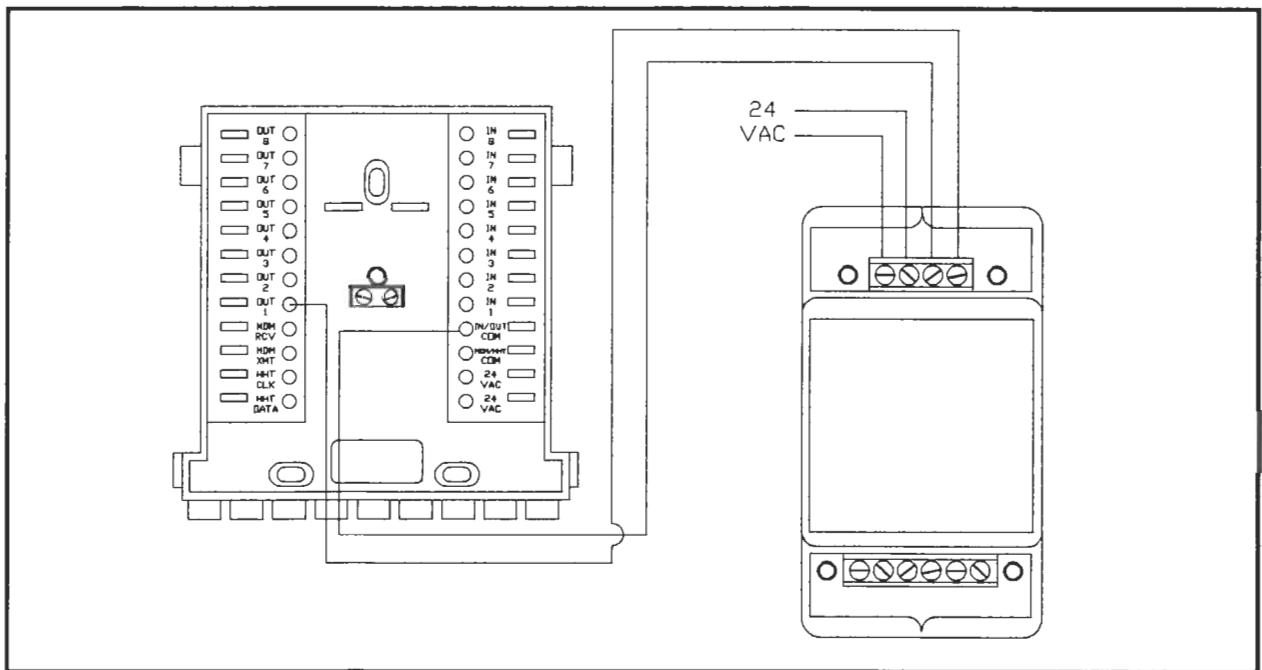

Fig. 4, Clipper Wiring
2. Wiring to the Clipper controller is low voltage and need not be in conduit unless required by local codes. Figure 4 shows the connection of the M930 to the 8008 controller.